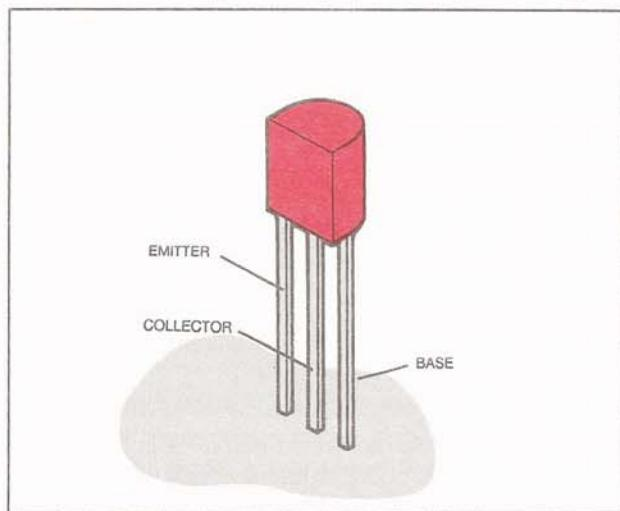

FIG. 33
- e. Tin the leads of transistor Q18 and solder it into the circuit. See Fig. 33 for proper lead positioning.